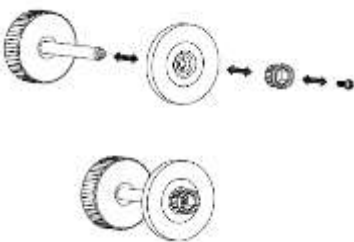

Fig. 6
C. Assemble and replace the narrow metal and narrow plastic brush. Refer to Fig. 6